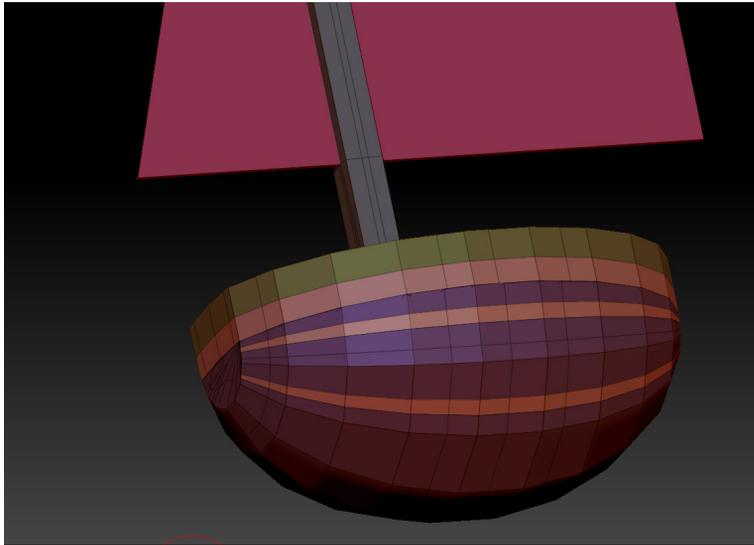

Figure 3-132 The edges are added
3. Select polygons of the boat model using the ALT key, as shown in Figure 3-132. Right-click on the selected polygons; the **ZMODELER** window is displayed. Make sure the **Extrude** option in the **POLYGON ACTIONS** area and **A Single Poly** option in the **TARGET** area is chosen.